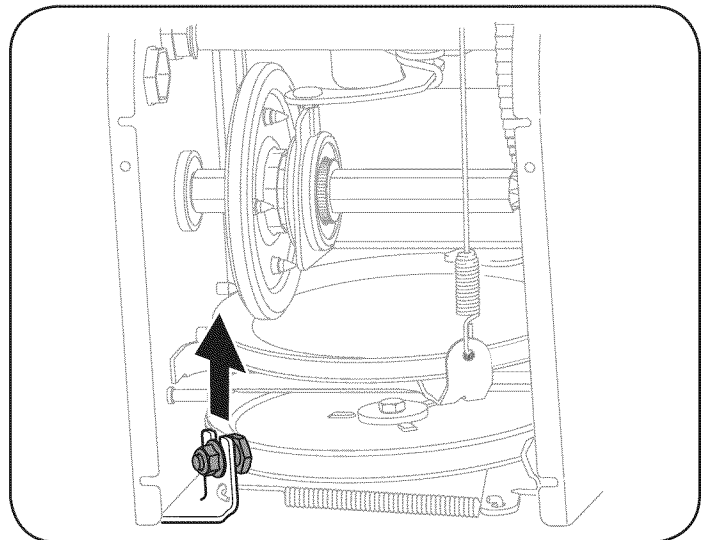
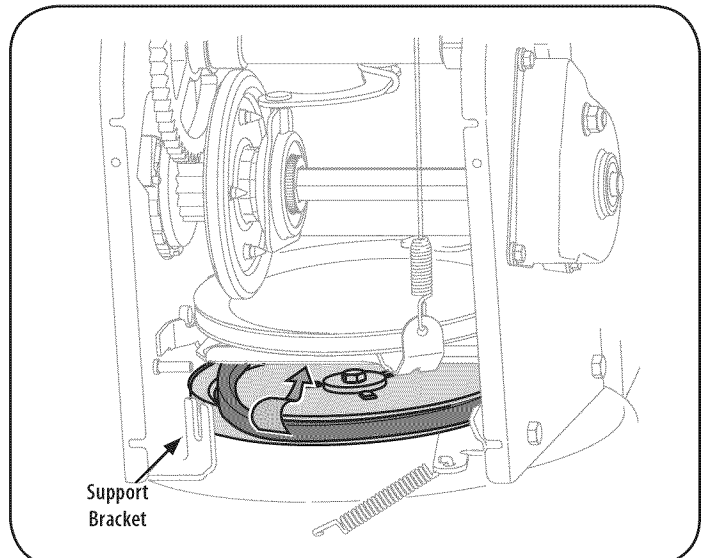

Figure 34
Figure 35
7. Loosen and remove the shoulder screw which acts as a belt keeper. Refer to Figure 34.
8. Remove the belt from around the auger pulley, and slip the belt between the support bracket and the auger pulley. See Figure 35.
**NOTE:** Do NOT forget to reinstall the shoulder screw and reconnect the spring to the frame after installing a replacement auger belt. See Figure 34 and Figure 35.